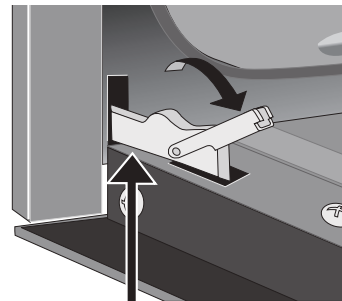
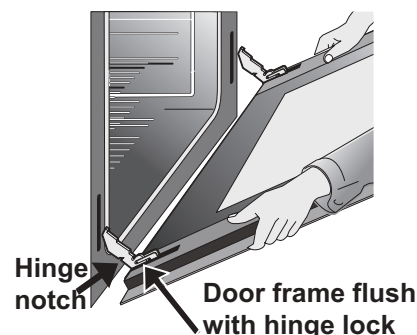

Figure 36: Holding door for removal
Figure 37: Replacement and location of hinge arm and roller pin
3. Firmly grasp both sides of oven door along the door sides. Do not use the oven door handle (See Figure 36).
4. Close the door to approximately 10 degrees from the door frame (See Figure 36).
5. Lift the oven door hinge arms over the roller pins located on each side of the oven frame (See Figure 37).
1. Firmly grasp both sides of oven door along the door sides. Do not use the oven door handle (See Figure 36).
2. Holding the oven door at the same angle as the removal position, seat the hook of the hinge arm over the roller pins located on each side of the oven door frame (See Figure 36 and Figure 37). The hook of the hinge arms must be fully seated onto the roller pins.